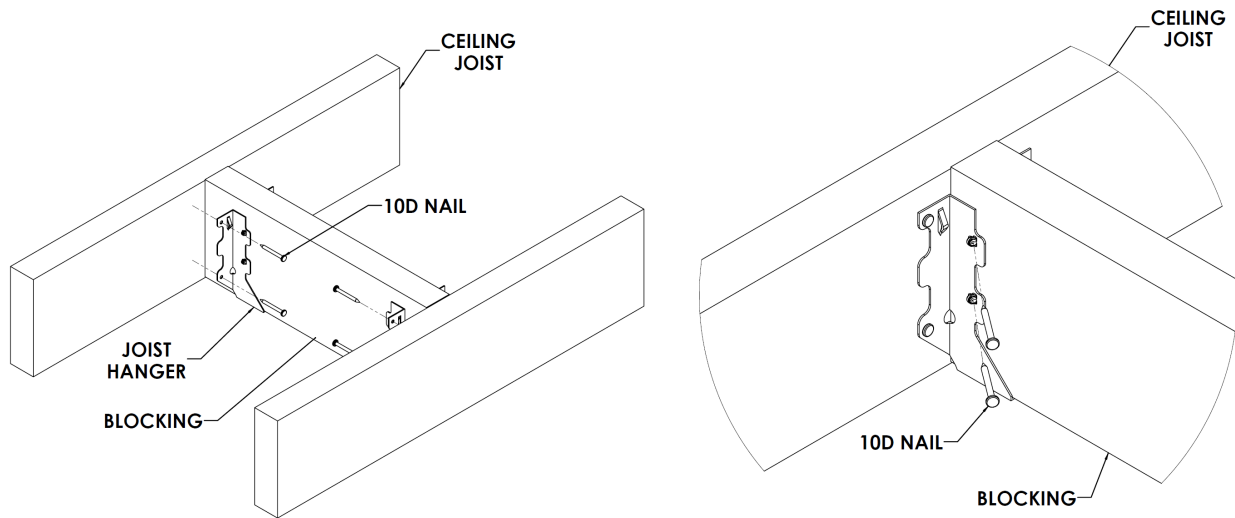

Figure 176: ***Joist Hangers and Nails***
6. On both sides of the blocking, use appropriately sized joist hangers (to match the wood blocking dimensions) with 10D nails to attach the blocking to the joists, as shown in Figure 176.